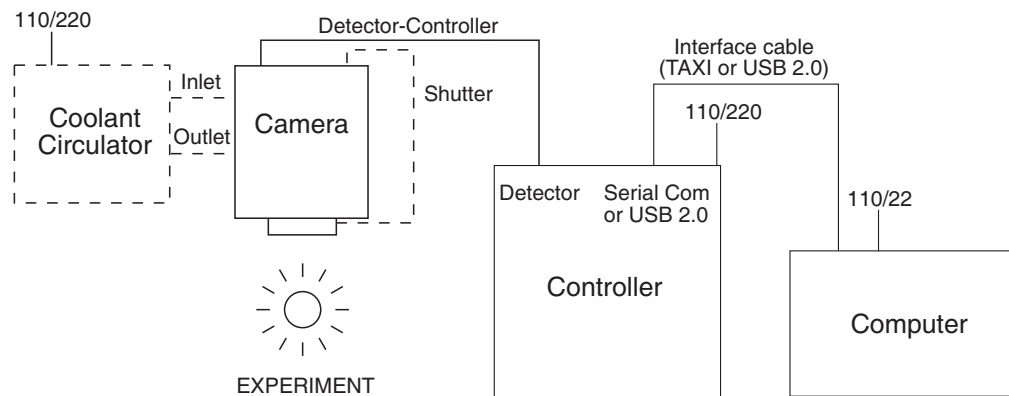

Figure 7. System Connection Diagram (TE Camera)
1. If the system cables haven't as yet been installed, connect them as follows (system power off). *See Figure 7.*